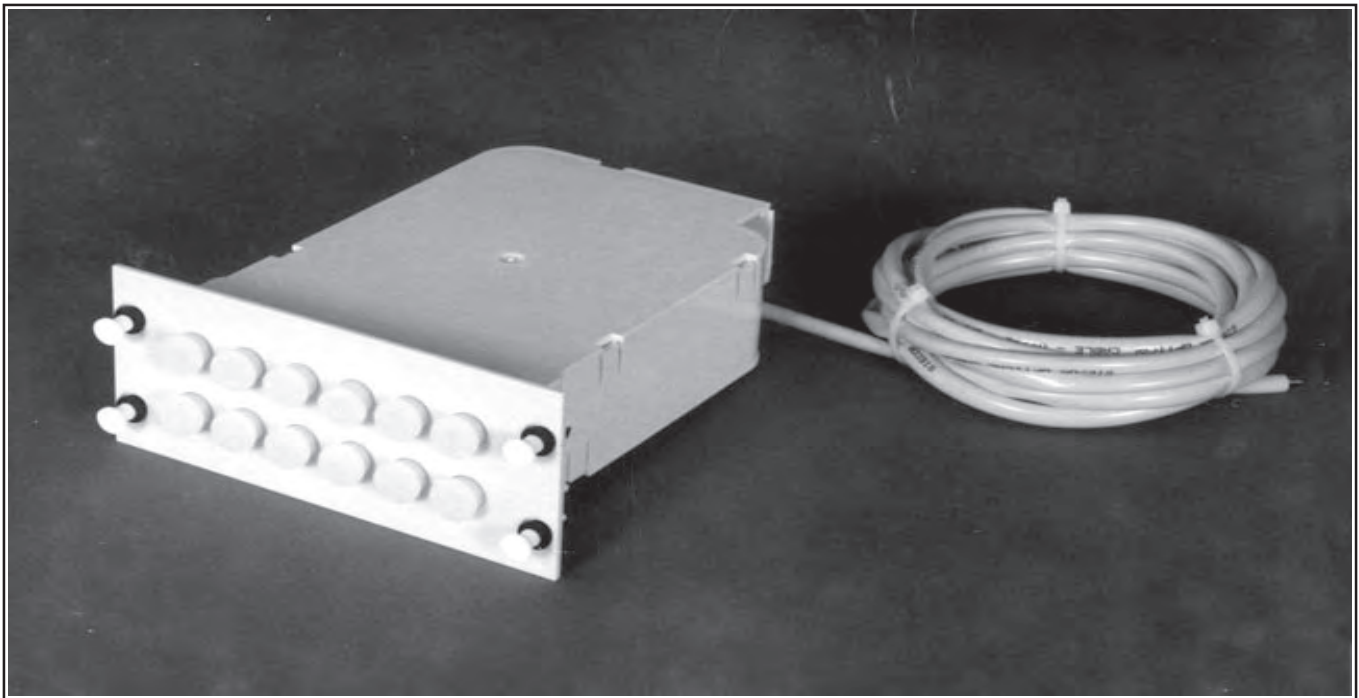

Figure 1
2.1 The Corning Cable Systems connector module is a fan-out assembly within a modular housing. Up to twelve pigtails with connectors on one end are installed in connector sleeves inside the connector module. The pigtails are protected and grouped into one unit that extends from the exit point of the module to the point where the fibers are attached to a splice tray (Figure 1). The 12-fiber connector module will also accommodate the Corning Cable Systems ribbon fan-out assembly.